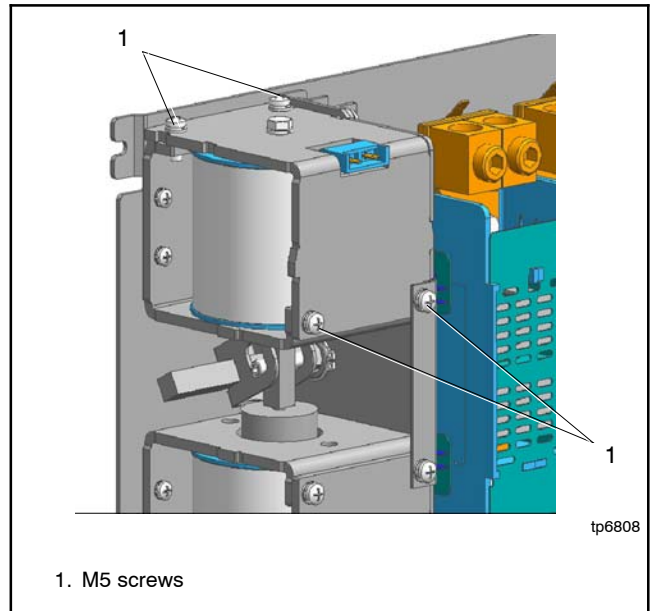

Figure 7-61 Install Coil Assembly
4. Tighten the M5 screws at four locations. Tightening torque for the M5 screws: 3 Nm. See Figure 7-61.